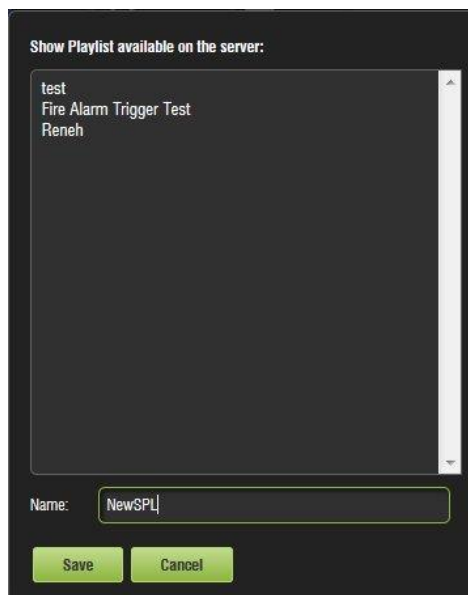

Figure 225: SPL Naming
- After the correct password is entered, the user will be prompted to name the newly created SPL (Figure 225).